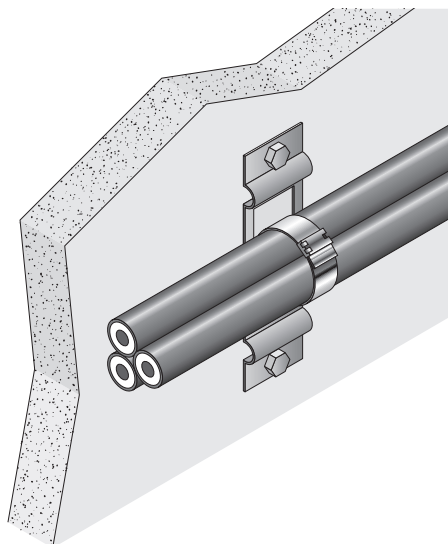

Figure 1: Steel banding and bracket
3. **Bracket/Clamp-type Supports** (Figures 1, 2 and 3) – The MI cable(s) shall be secured to the surface of the wall or floor by (1) steel brackets with stainless steel banding, (2) copper clip, and/or (3) steel pipe clamps secured to steel strut. Refer to the Manufacturer's Installation Instructions for additional details.